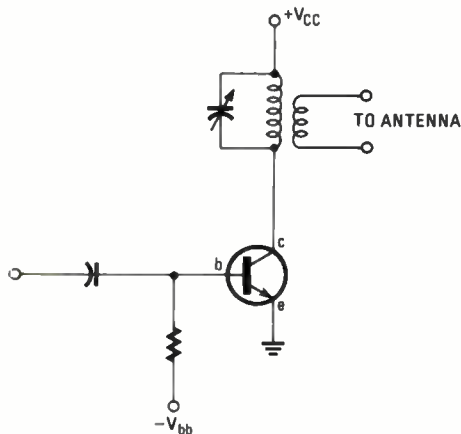

Fig. 24—The class C amplifier is used in radio transmitters.
59. (90 to 150) Figure 24 shows a simple class C amplifier. Note the tuned circuit. Class C amplifiers are used in radio